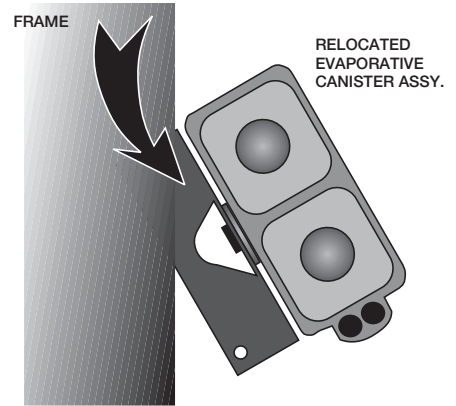

Fig. 1-a
- L. Relocate the evaporative canister forward (at a slight angle) by using only the front bolt in the bracket rear hole. (See Fig. 1-a.)